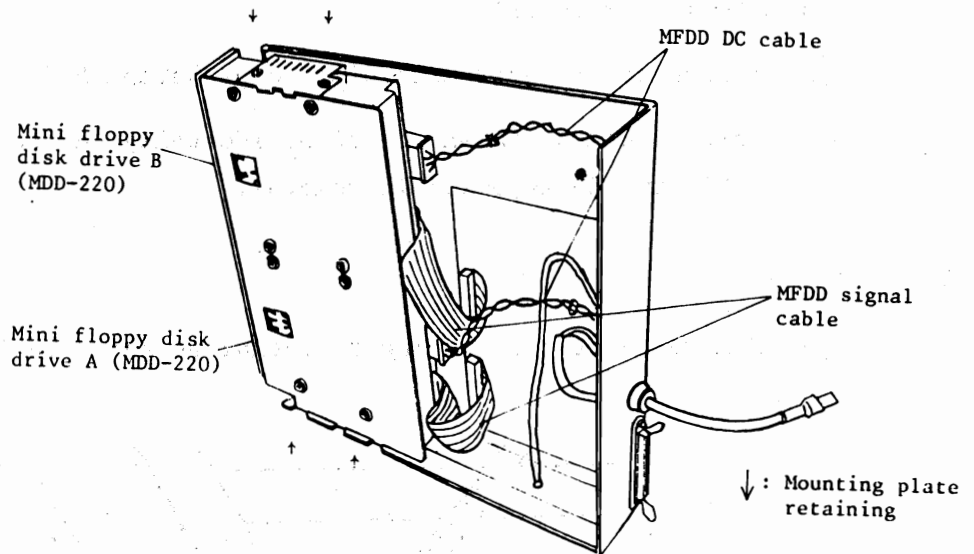

Fig. 5.4.1
- ① Insert shipping sheet 5" into MDD-220
- ② Remove housing plate (see (1) of paragraph 3.3.1)
- ③ Disconnect MFDD signal cable and MFDD DC cable from each MDD-220.
- ④ Remove four retaining screws in Fig. 5.4.1 from mounting plate.
- ⑤ Remove MFDD retaining screws of defective mini floppy disk drive A or B, to remove it from its mounting plate.